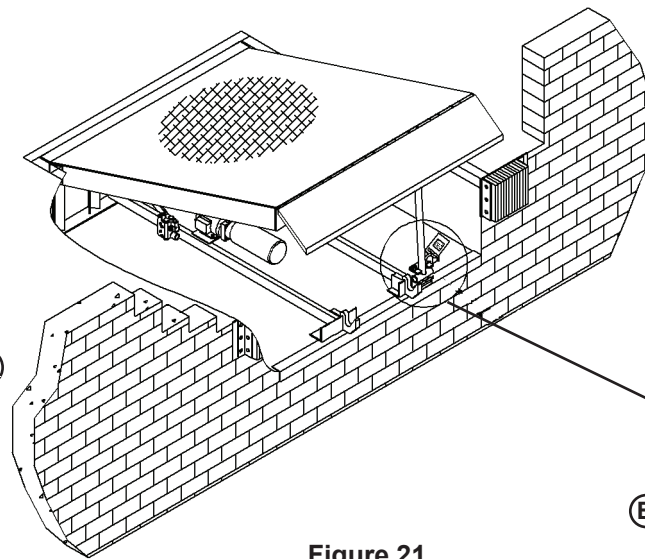

Figure 21
Whenever maintenance is to be performed under the dock leveler platform, support the platform with maintenance prop (C). Position the maintenance prop behind front header plate (D) while staying clear of the lip. The lip will fold down after the platform has rested on the maintenance prop. Lock the maintenance prop in the service (upright) position using an OSHA approved lockout device* (B) and tag out device* (A). See Figures 21 and 22.